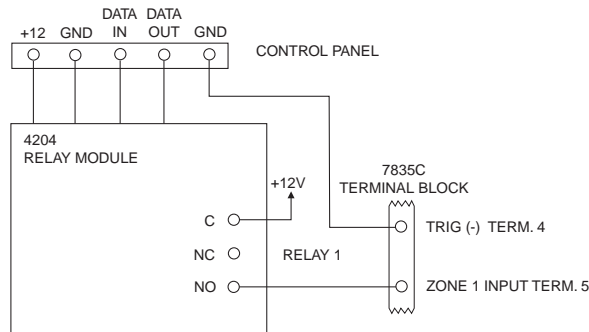

Figure 9. Wiring the 7835C zone 1 input to be triggered by an ADEMCO 4204 output relay
2. Connect the N.O. contact of the relay to the input zone. When the relay is activated, voltage will be applied to the zone, causing the radio to send its message (see Figure 9).